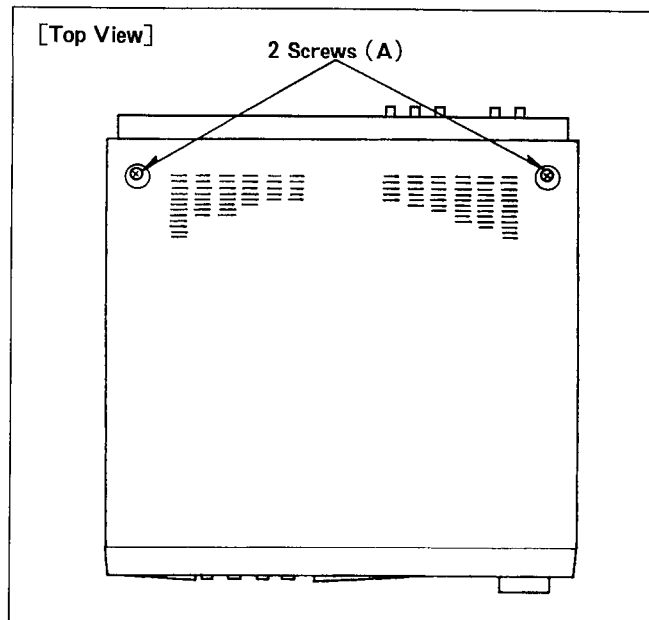

Figure D2
1. Unscrew the 2 screws (A) on the Top Panel (Figure D2).